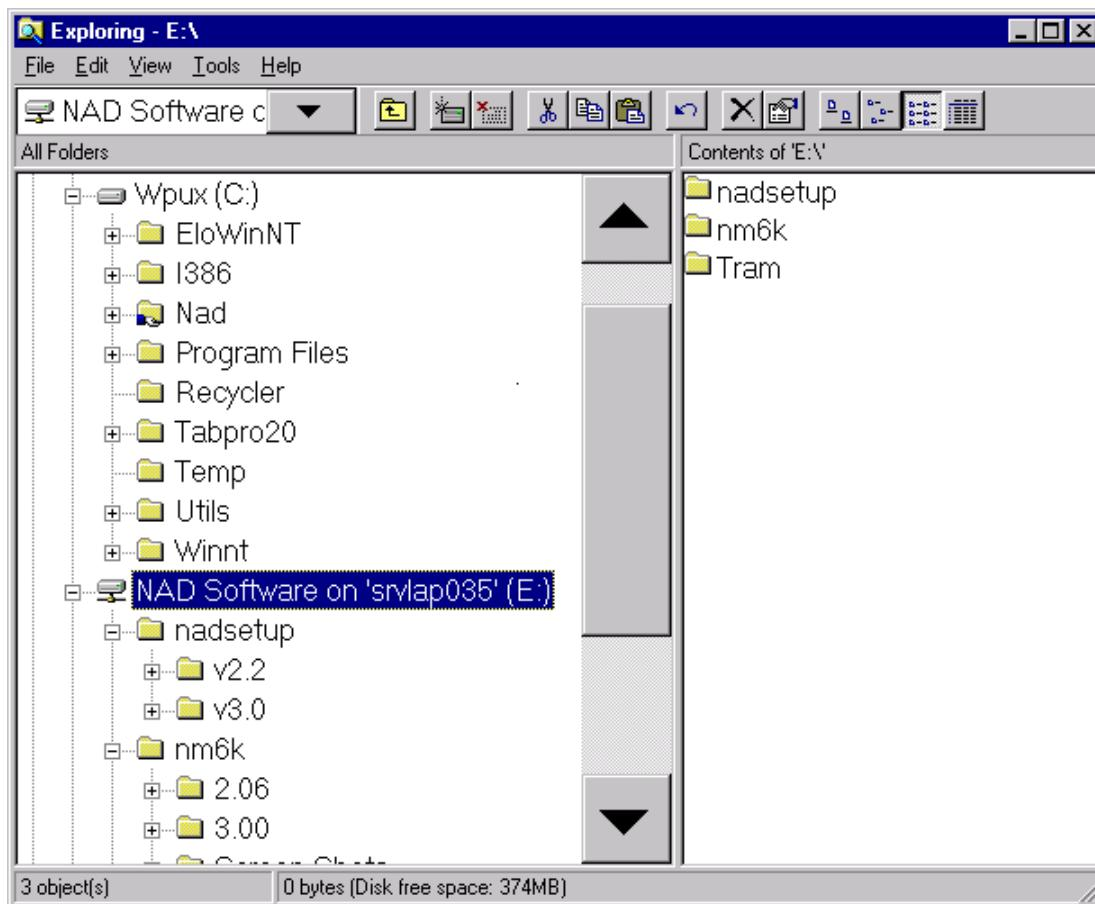

FIGURE 14. Typical NAD Software Dialog
- 3.29 On the NM6000 Series display screen, select “NAD Software on (E:)”. See FIGURE 14.